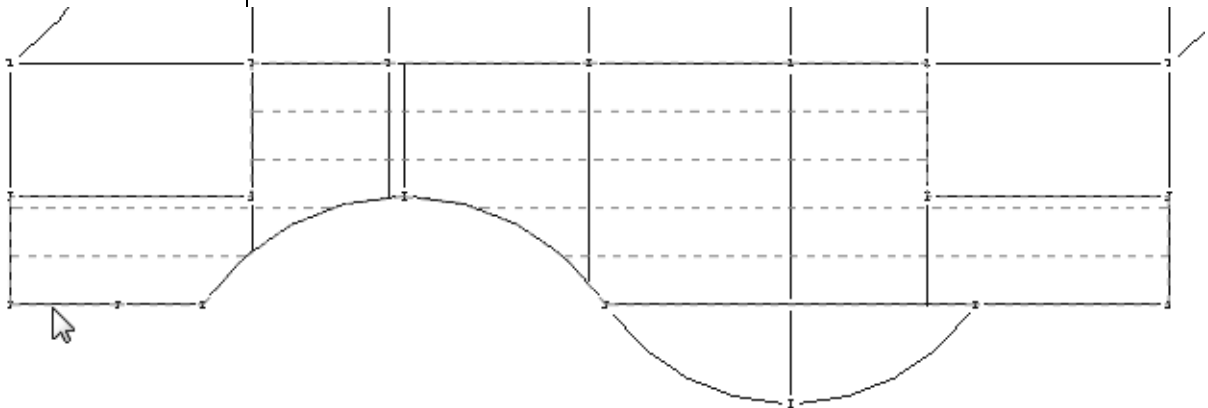

Figure 7–54
6. Hover the cursor over the lower left girder as shown in Figure 7–54. The Beam System does not stop at the boundary of the other girders as expected because of the lower bearing offset. Do not select the beam.